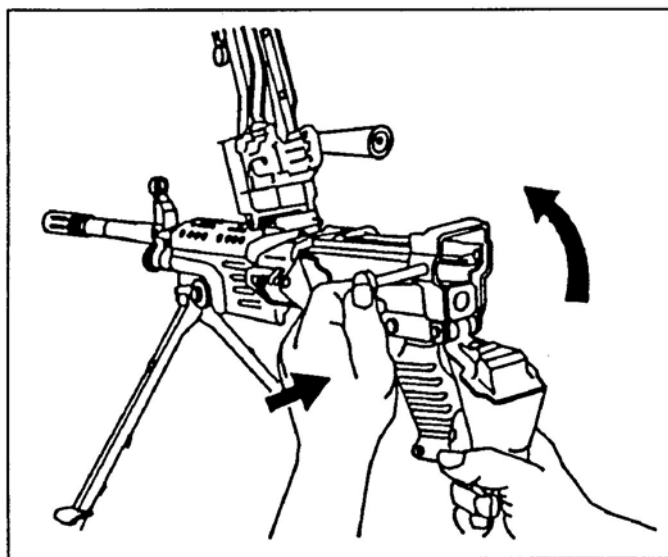

Figure 34. Cleaning of the rear of the receiver.
- (3) Hold the pistol grip with one hand. With the other hand, push the return rod and transfer mechanism assembly into its housing in the piston. Press inward and downward on the rear of the assembly until its two lugs move into the receiver grooves.
- i. Pivot the buttstock and buffer assembly upward into position. Push the retaining pin to the right, and close the cover assembly (Figure 34).